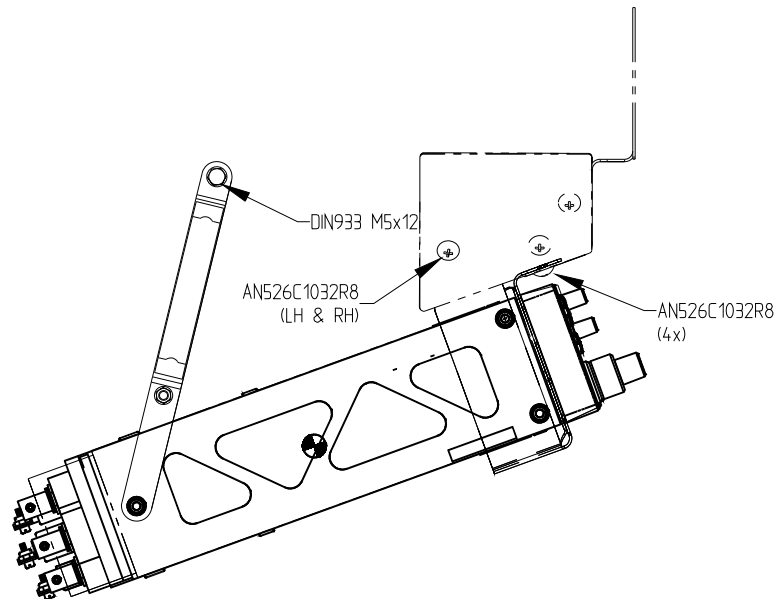

Figure 5: Attachment screws of the the instrument subpanel (EA 300/S shown)
- Unscrew AN526 and DIN 933 attachment screws of the instrument subpanel and remove the subpanel in rearward direction to the pilots seat while the control stick is in the most LH or RH control input position (see figure 5). In some cases the